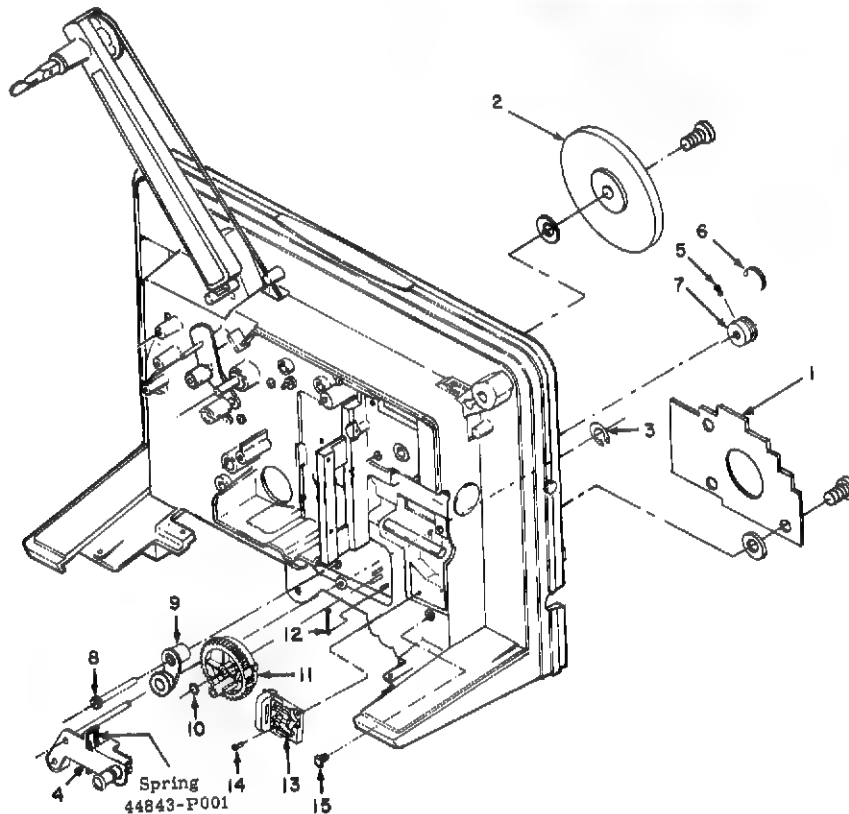

Figure 3-16. AUTOMATIC LOOP RESET REMOVAL AND REASSEMBLY
1. Remove the venturi plate (1).
2. Remove the sound drum Flywheel (2).
3. With a long, flat-blade screwdriver, reach in behind the blower venturi plate and remove the "E" Ring (3).
4. Slide the Arm Complete (4) out of its mounting hole in the main casting.
5. Loosen the Set Screws (5), remove Belt loop setter (6), the Pulley (7) and slide the Pinion (8) out of the bearing of the Pivot (9).
6. Remove the "E" Ring (10), the Gear (11) and the Kick Spring (12).
L. Reassembly of Automatic Loop Reset Assembly Ref. Figure 3-16
1. Clean the Oilite Bearing in the Pivot (9) with a cotton swab moistened with Tereoso Instrument Oil (39479-P8).
2. Assemble the Kick Spring (12) immediately next to the loop reset gear mounting shaft as shown.
3. Insert a dental pick through the small hole next to the hub of the Loop Reset Gear (11) and push the Kick Spring (12) out of the way so the gear can be pushed onto its shaft. Secure the gear with the "E" Ring (10) (251-7-1).
4. Slide the Pinion (8) into the oilite bearing of the Pivot (9) and assemble the Pulley (7) allowing for .001" to .007" end play. Tighten Set Screws (5).
5. Slide the Arm Complete (4) into its mounting hole in the main casting and secure it in place with the "E" Ring (3). (A set of surgical hemostats are very helpful for holding this "E" Ring during installation.)
6. Replace the sound drum Flywheel (2).